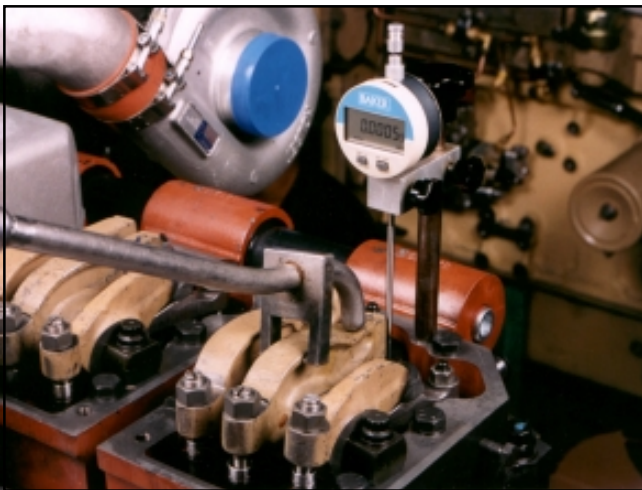

Fig. 7-21. Bottoming injector plunger in cup
3. Using the rocker lever actuator, Fig. 7-21, depress the lever toward the injector until the plunger is